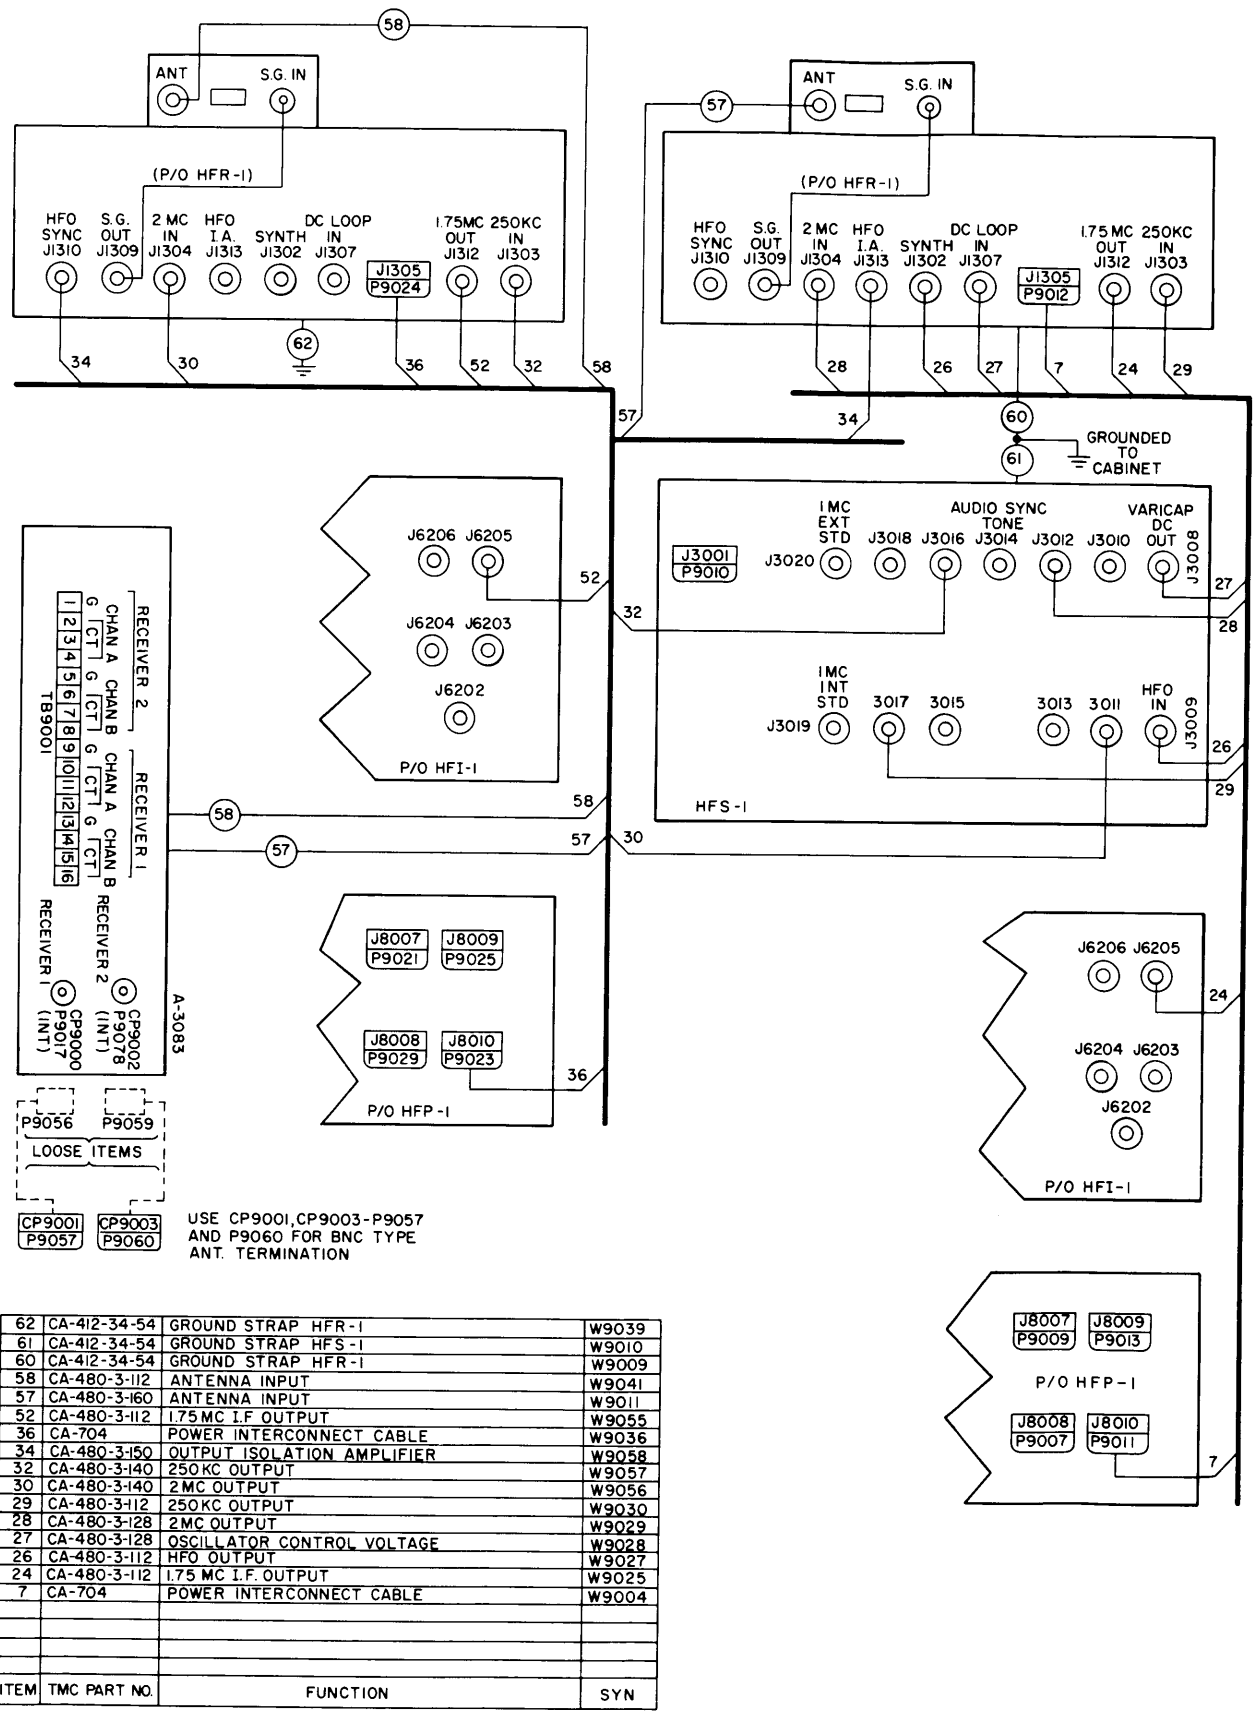

Figure 2-4. HFR-1 Cabling Interconnections, DDR-5A Operation
- (4) Press forward release finger and push HFR-1 into equipment rack.
- (5) Secure front panel to rack with screws.
b. ELECTRICAL INSTALLATION. Figures 2-4 and 2-5 illustrate the interconnections for the HFR-1 as used in synthesized DDR-5 operation. For non-synthesized operation, the cable connection between jack J3017 of the synthesizer and jack J1307 of HFR-1 is removed, and J1307 is terminated with the 47 ohm AT1303 termination. If the HFR-1 is used with another system, a synthesizer unit, an IF amplifier, and a power supply capable of furnishing the voltages and frequencies indicated in schematic diagram 8-1 are required.